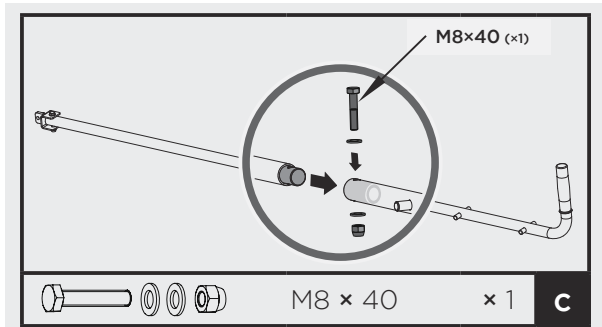

Figure 9
3. Insert the shorter control lever into the longer lever. Align holes and fasten with M8×40 hex bolt, washers and nut (figure 9).